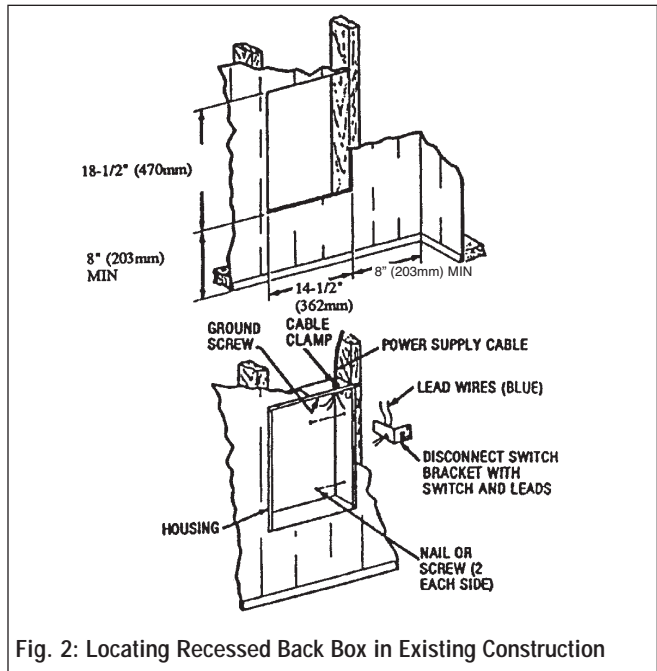

Fig. 2: Locating Recessed Back Box in Existing Construction
1. Provide a wall opening 14-1/2" (362mm) wide by 18-1/2" (470mm) high at the desired mounting height, but no closer than 8" (203mm) from floor. (See Figure 2.)